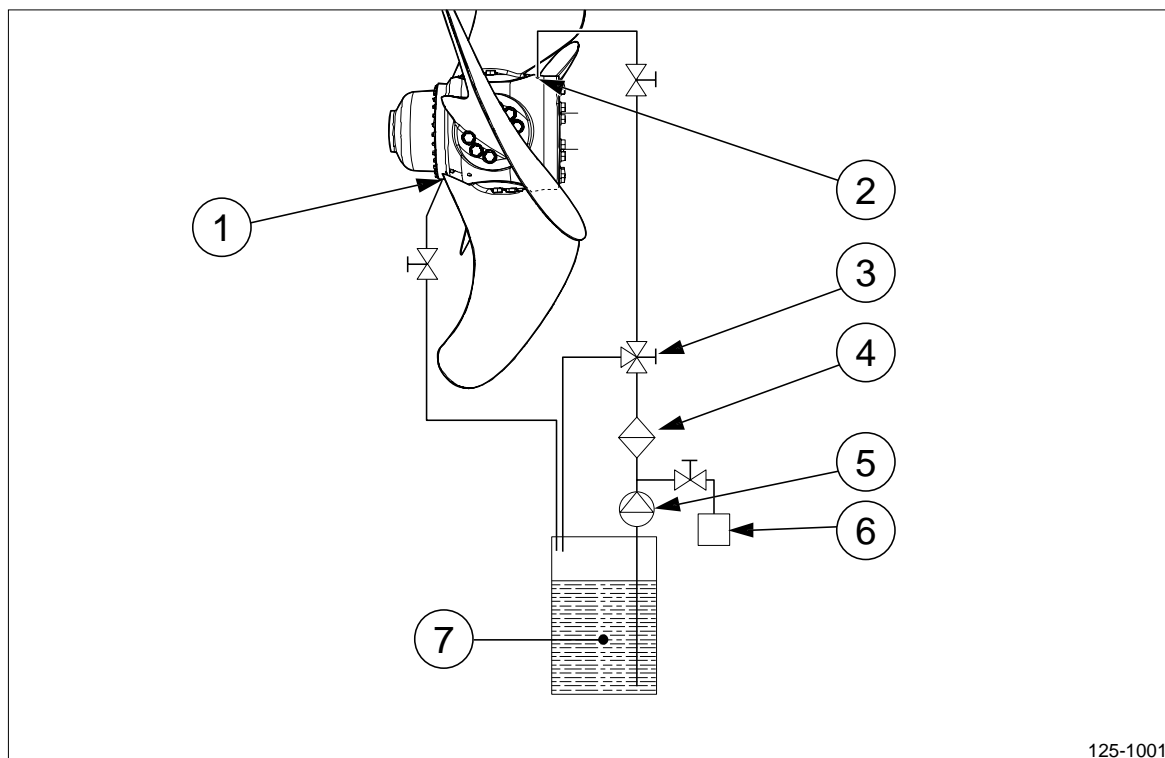

Figure 2 The hub is turned half a turn when flushing the hub.
8. Start the filling unit again and turn the propeller hub half a turn (180°) (see figure 2).